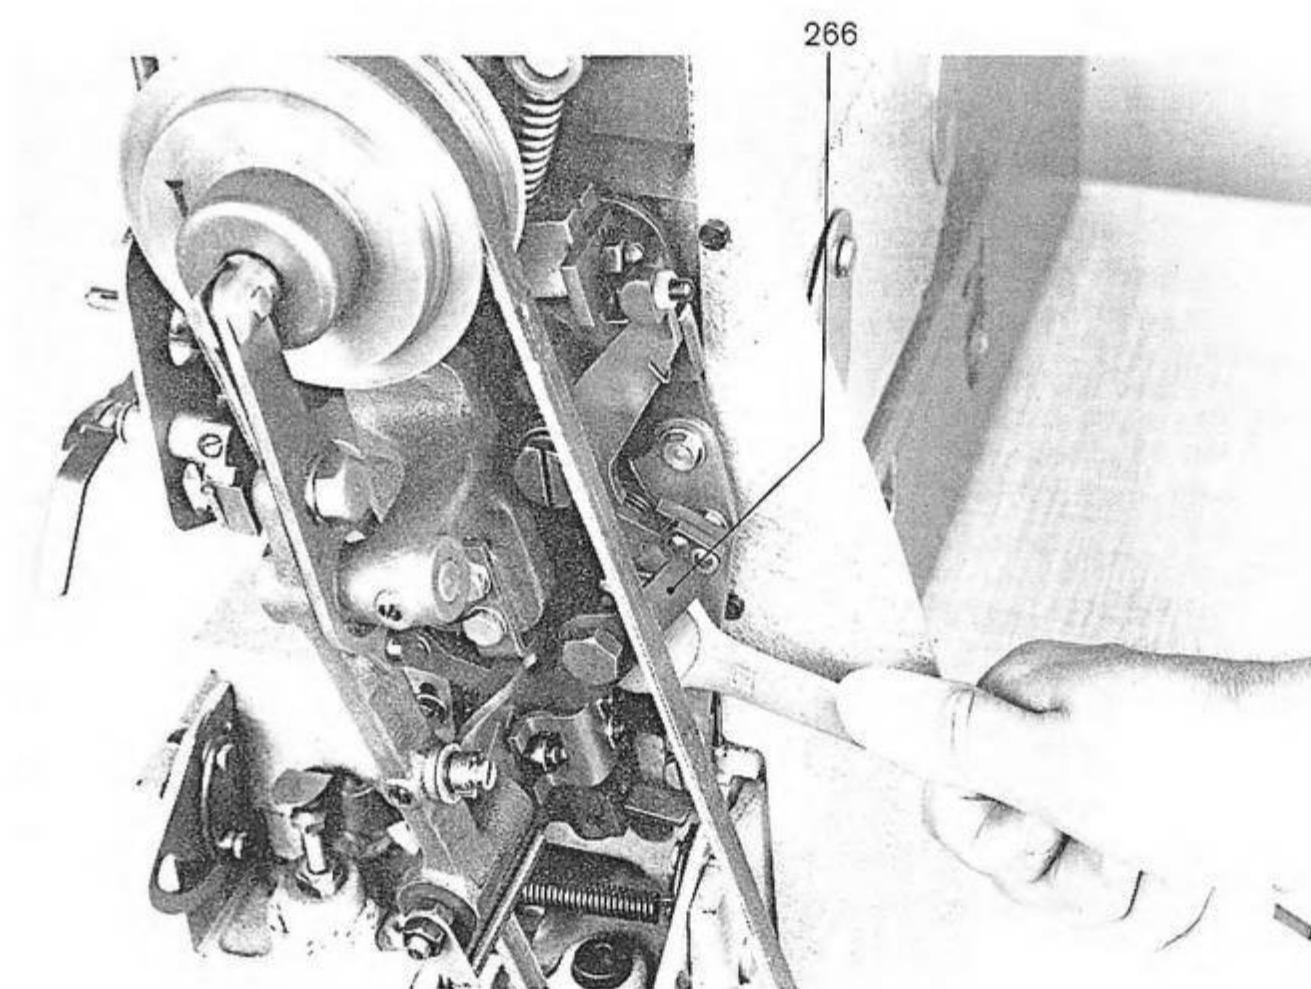

Fig. 59
5. Drop in the safety lever 266 (fig. 59) by means of a spanner.